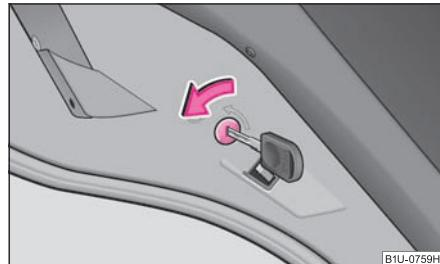

Fig. 31 Child safety locks on the rear doors
- Use the vehicle key to turn the slit in the rear door to the left in the direction of the arrow ⇒ fig. 31.